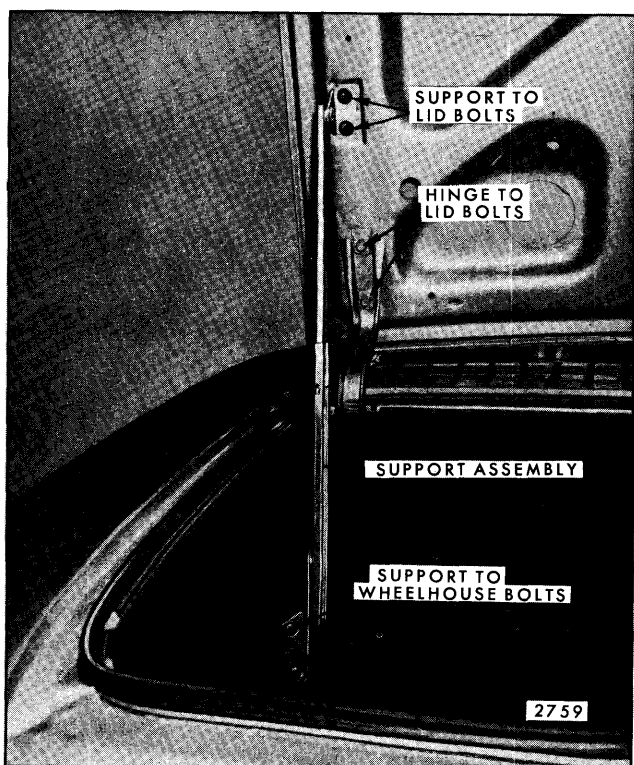

Fig. 8-12—Engine Compartment Lid Support - "Z" Body Styles
2. Remove two attaching bolts securing support to lid and two bolts securing support to wheelhouse and remove support from body (see Fig. 8-12).